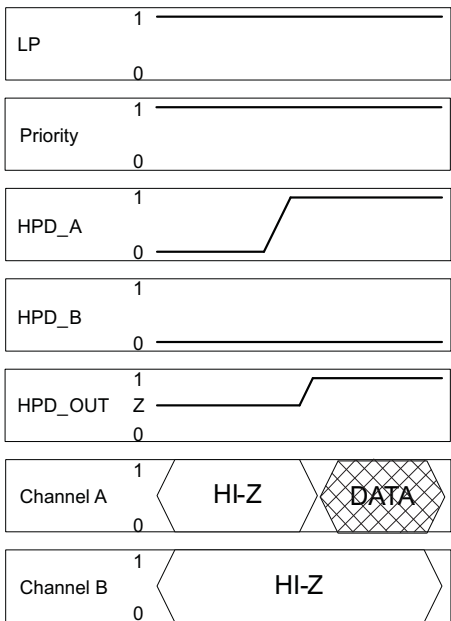

Figure 19.
- Case two: In this case both HPD inputs are initially LOW and the low power pin is HIGH. In this initial state the device is in a low power mode. Once one of the HPD inputs goes to a HIGH state, the device comes out of the low power mode and enters active mode enabling the main link and auxiliary I/O. The port associated with the HPD input that went HIGH is selected and the HPD output to the source is enabled and follows the logic state of the input HPD (see Figure 19). This is specified as $t_{Z(HPD)}$. Again, the state of the Priority pin has no effect in this scenario as only one HPD input port is active.